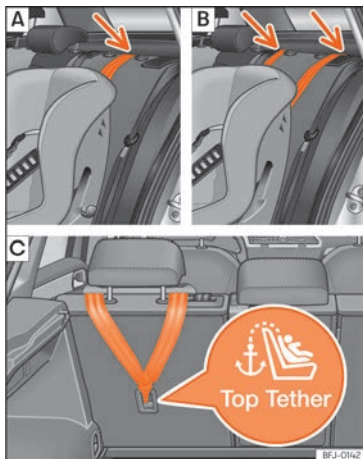
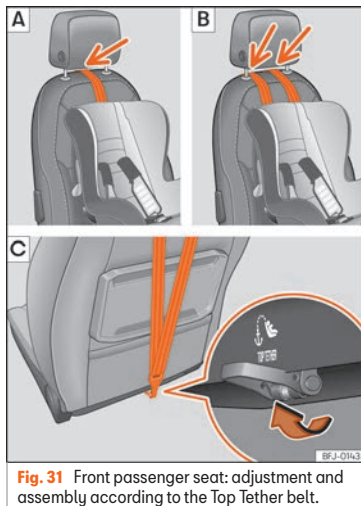

Fig. 30 Side seats of the second row: adjustment and assembly according to the Top Tether belt.
Fig. 31 Front passenger seat: adjustment and assembly according to the Top Tether belt.
hind the seat backrest or in the boot) »» Fig. 30. For the front passenger seat, the ring is below the backrest »» Fig. 31.
»» Fig. 30 [A] or [B], »» Fig. 31 [A] or (depending on the instructions of the seat itself, lift or remove the headrest if necessary).
- Slide the strap and secure it properly with the anchorage of the backrest »» Fig. 30 [C], »» Fig. 31 [C].